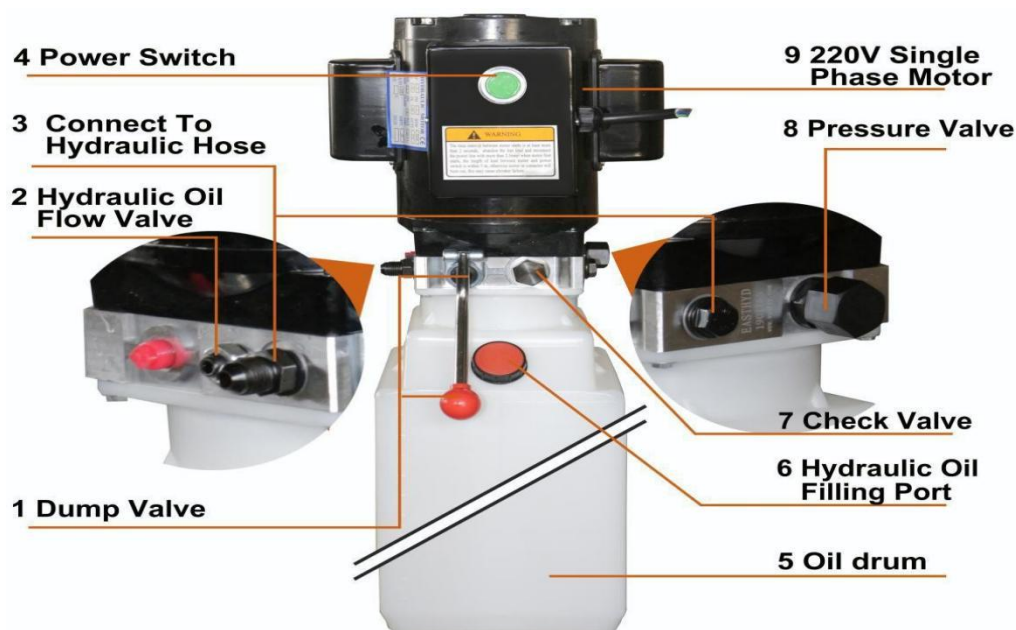

Fig 12 Power Unit Diagram
4. Power unit testing (Fig 12)